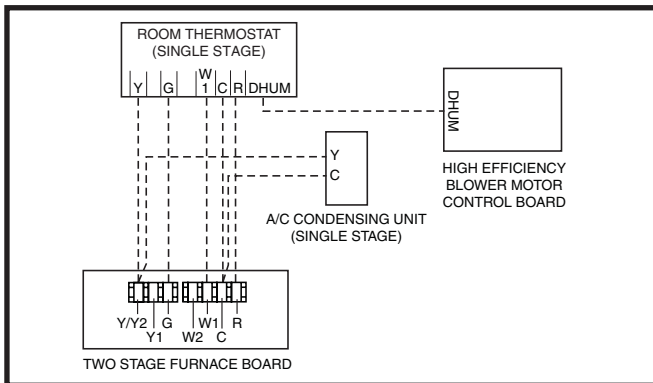

Figure 21. Wiring Configuration 1
### Single Stage AC and Single Stage Thermostat (Fig. 21)
- Connect the thermostat's **W** output (Figure 21) to the furnace control boards **W1** terminal. This allows the furnace to always run in **low** output mode.
- √ Verify that all needed thermostat wires are securely connected to the correct leads on the terminal strip of the circuit board. See Figures 21 - 23 (page 24).